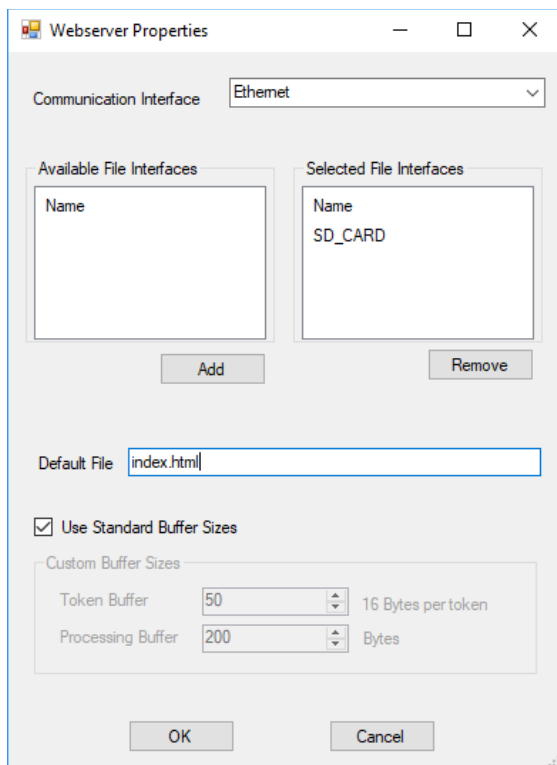

Figure 24-3
- The Webserver Properties window will open. See Figure 24-3.